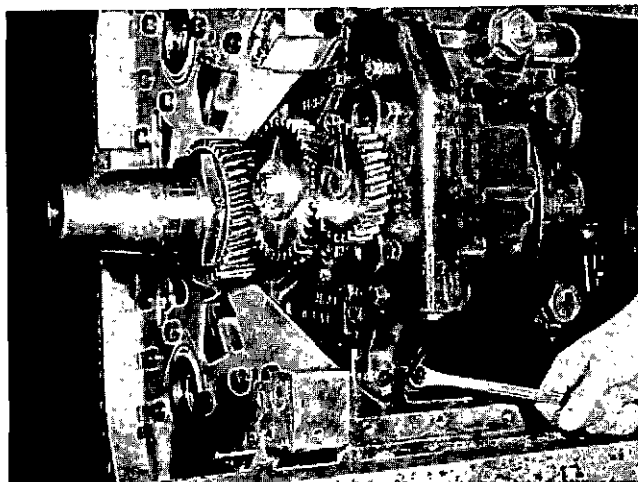

Fig. 0-40, V40073. Removing lubricating oil pump
5. Remove capscrews and lockplates securing lubricating oil pump to block. Fig. 0-40. Lift off pump.